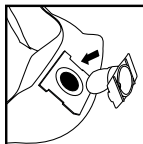

FIGURE 23
33. Position the inlet deflector with the opening facing the left or the right side of the filter bag. Slide the filter bag collar over the inlet deflector, matching the notches of the bag collar to the tabs on the inlet deflector. Bag will only fit properly one way. **FIGURE 23.**